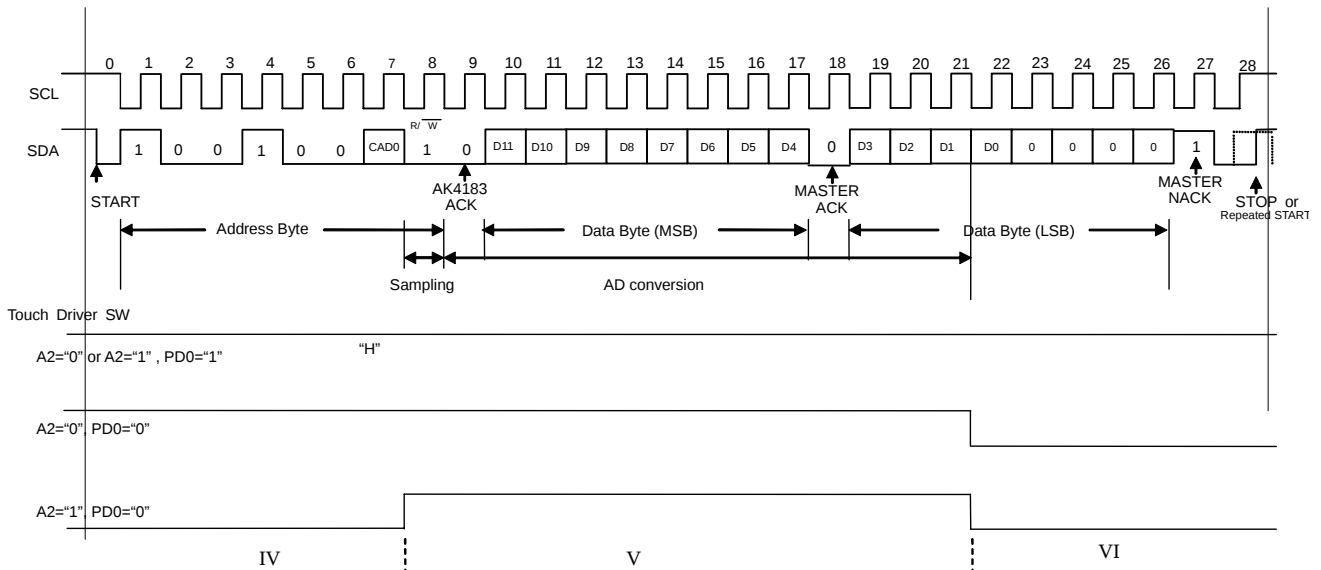

Figure 14 Read data Sequence
■ READ Operation Sequence (Figure 14)
The transition of PENIRQN is related to PD0 bit. PD0 bit is updated as shown below. (Please see “power-down control” for the detail. Once the control command with PD0=“1” is sent the pen-interrupt function is disabled. The clock number under the write and the read operation refer to Figure 13 and Figure 14.